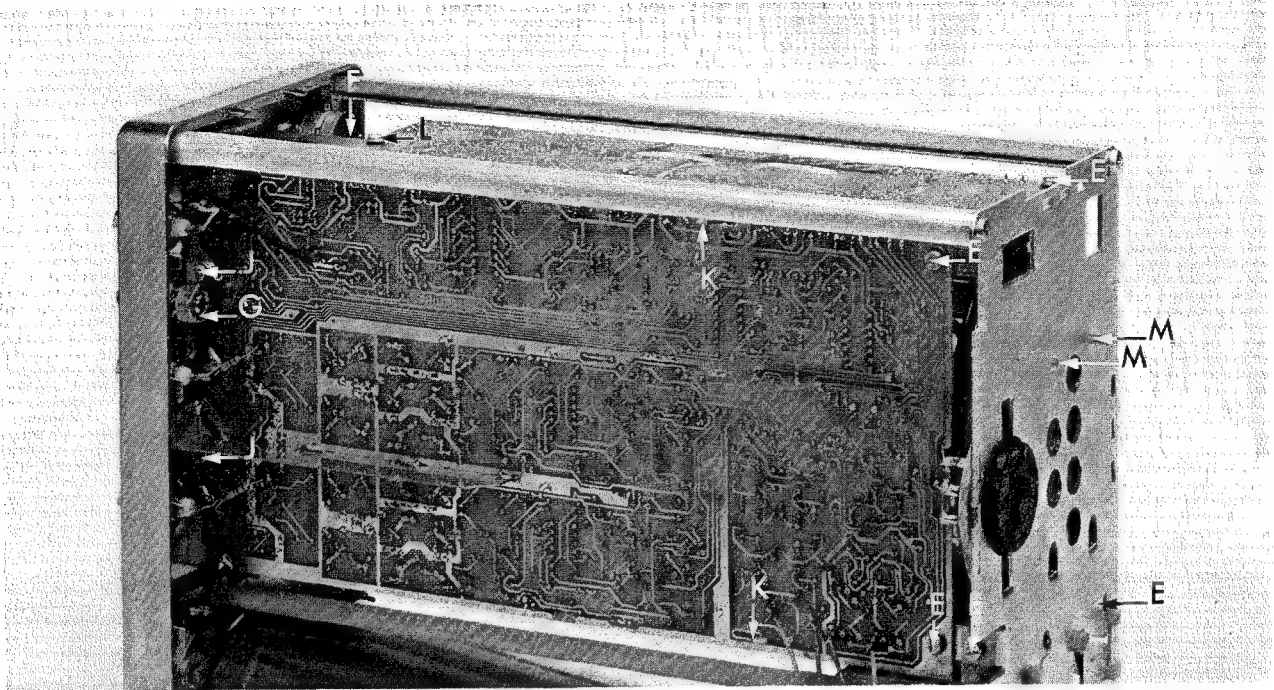

Fig. 2.7. Dismantling
- 5 screws E (Fig. 2.7.) holding p.c. boards to rear plate.
- 1 screw F (Fig. 2.7.) behind front panel (top).
- 1 nut G (Fig. 2.7.) behind front panel (bottom).
- unscrew two screws J (Fig. 2.7.) and the two nuts of ch. A and B input sockets.
- unhook angle bracket K located halfway along edge of the p.c. board (Fig. 2.7.).
- to remove vertical board: remove one screw L securing it to the front panel (Fig. 2.7.).
- unscrew two nuts of ch. A and B input sockets and the two screws J securing the board to the front panel (Fig. 2.7.).
- unscrew two mounting screws M (Fig. 2.7.).